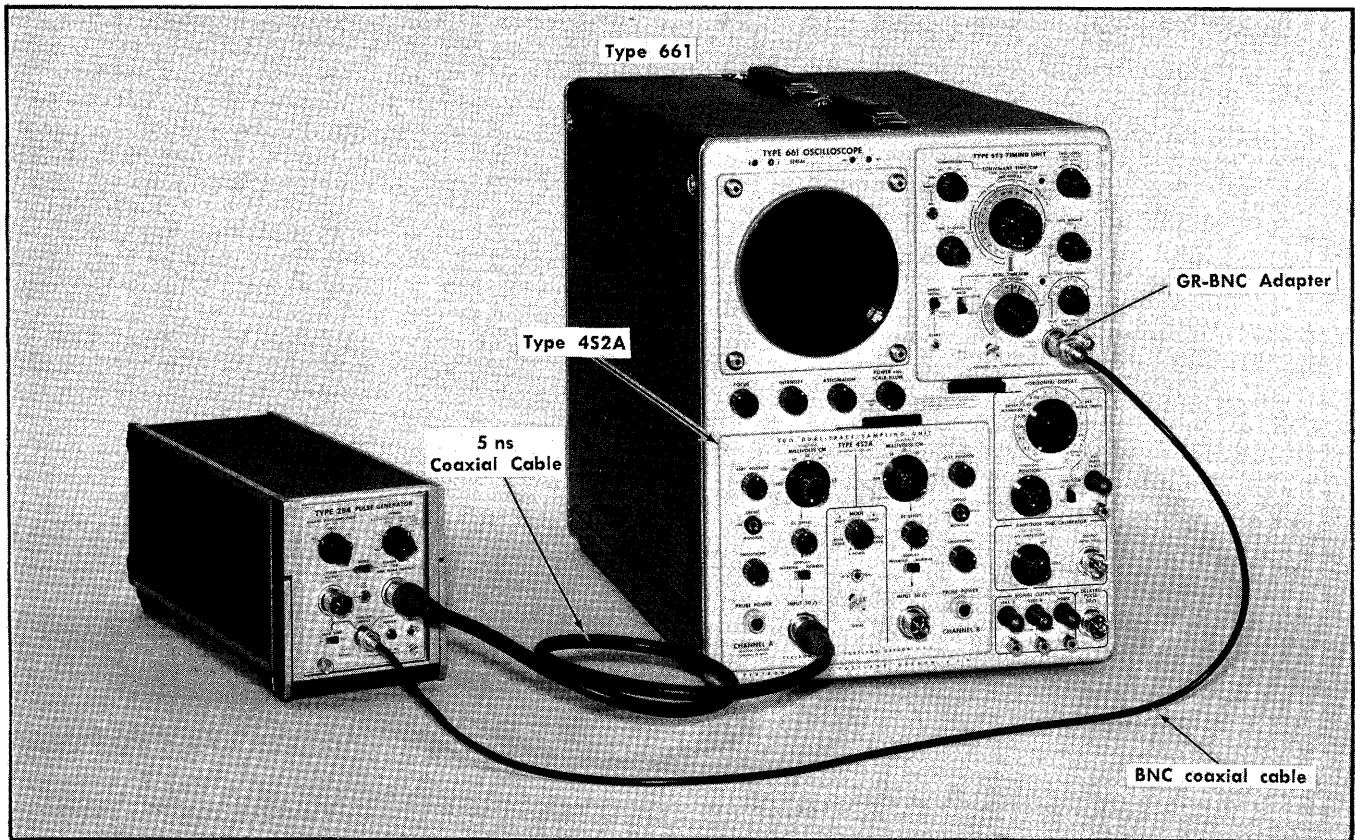

Fig. 6-19. Initial equipment setup for steps 11 and 12.
11. Adjust 10 ns Amplitude, C66 ❶
a. Use the initial equipment setup shown in Fig. 6-19, by connecting the SINE WAVE OUTPUT signal from the Type 284 through a 50 Ω coaxial cable to the Channel A 50 Ω input connector on the Type 452A. Connect TRIGGER OUTPUT signal from the Type 284 through a BNC coaxial cable and a BNC to GR adapter to the 50 Ω Ext Trig Input connector.